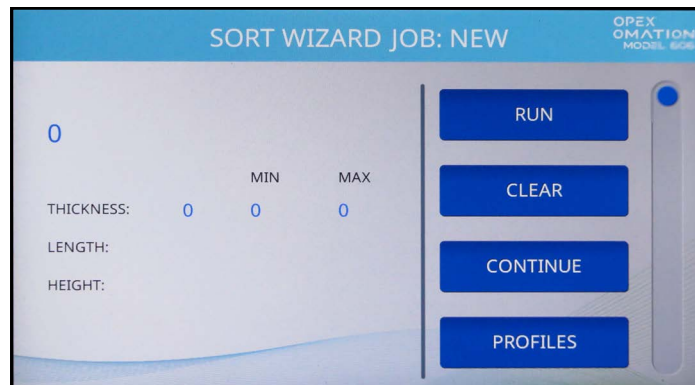

Figure 6-24: Sort Wizard sample run screen
8. Once the sample run is finished, the Sort Wizard Job screen (Figure 6-24) will display the primary mail values captured. Press **CONTINUE**.